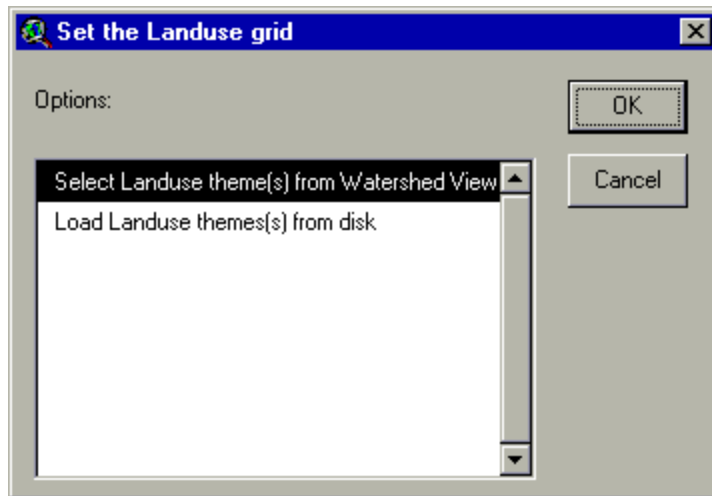

Figure 6.3
1. Select the land use data layer by clicking the  button next to the text box labeled **Land Use Grid**. A dialog box labeled *Set the LandUse Grid* will appear (Figure 6.3).